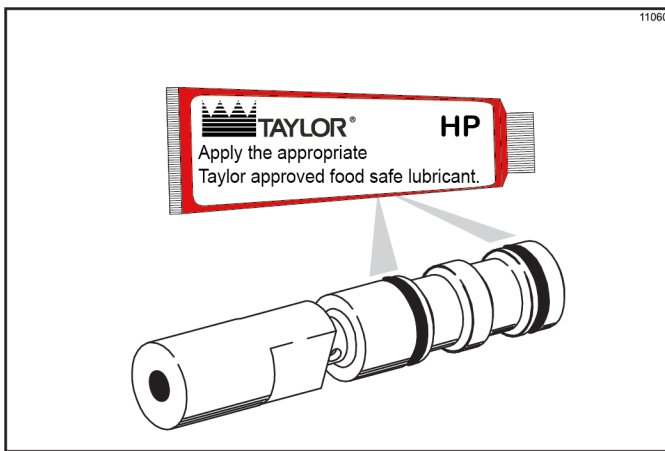

Figure 6-9
8. Assemble the draw valve spinner assembly. Inspect draw valve O-rings for cuts or nicks. (Replace if cut or nicked.) If draw valve O-rings are in good condition, slide the two O-rings into the grooves of the draw valve and lubricate. (See Figure 6-9.)